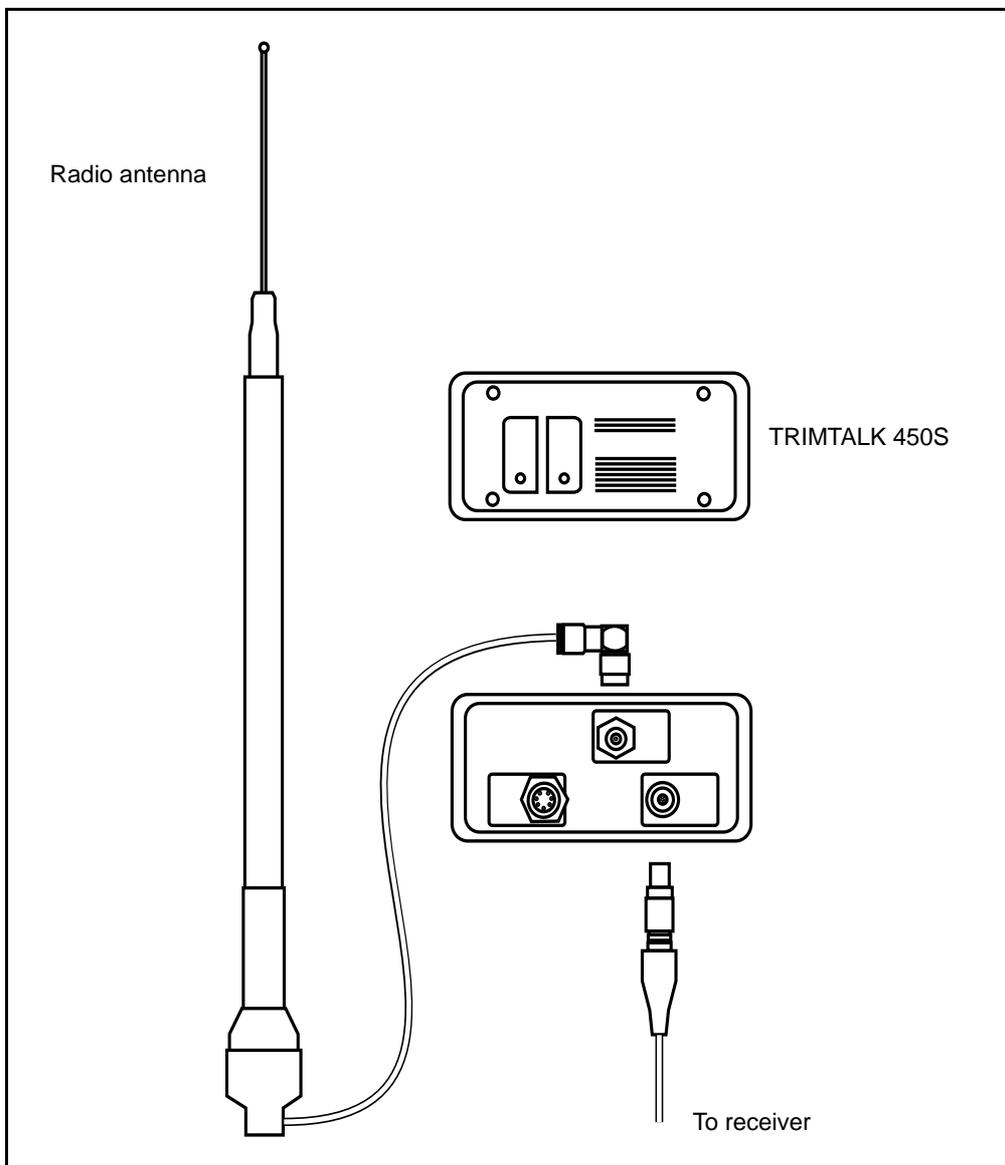

Figure 3.1 Radio connections (RTK survey)
3. Connect the radio hardware as shown in Figure 3.1.
Figure 3.1 shows how to connect a radio at the base station.